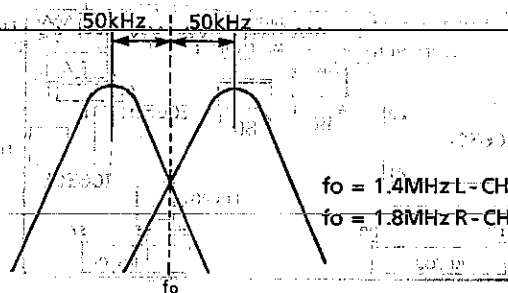

Figure. 2-7.
- 2. Observe TP6306 [TP6305] (Hi-Fi unit) and TP6307 (GND) signals by the spectrum-analyser, and adjust R6354 [R6362] so that the spectrum-analyser reads  $50 \pm 5\text{kHz}$  . (as shown in Fig. 2-7)